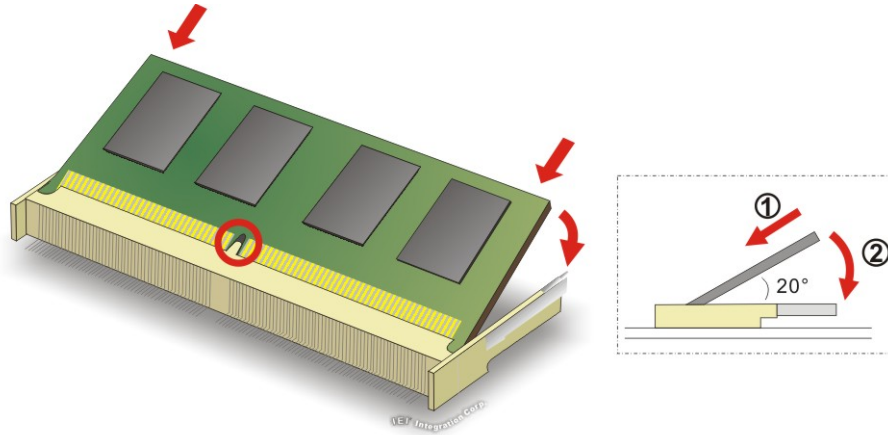

Figure 4-1: SO-DIMM Installation
To install an SO-DIMM, please follow the steps below and refer to **Figure 4-1**.
- Step 3:** Insert the SO-DIMM. Push the memory in at a 20° angle. (See **Figure 4-1**)
- Step 4:** Seat the SO-DIMM. Gently push downwards and the arms clip into place. (See **Figure 4-1**)